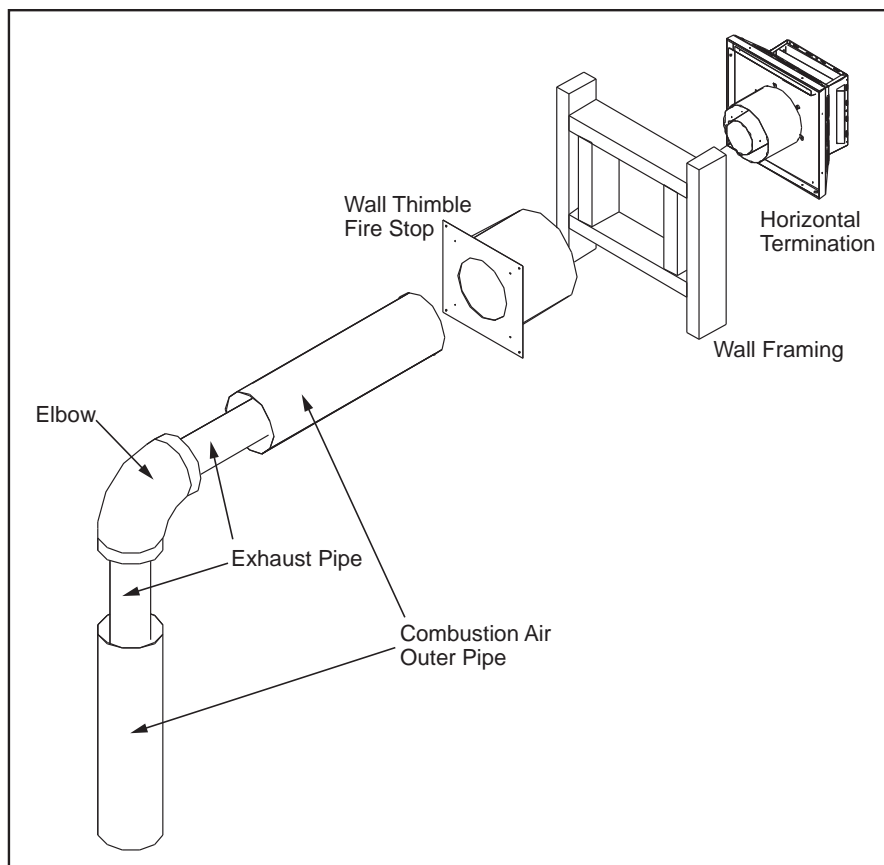

Figure 31. Horizontal Vent Termination
- Step 3.** With the pipe in the correct position and attached to the fireplace, mark the wall for a **10" (25.4 cm) x 10" (25.4 cm)** square hole (see Figure 31). The center of the hole should match the center line of the horizontal pipe. Cut and frame the hole in the exterior wall where the vent will be terminated. If the wall being penetrated is made of a non-combustible material (i.e. masonry or concrete) a **7" (17.8 cm)** hole is acceptable.